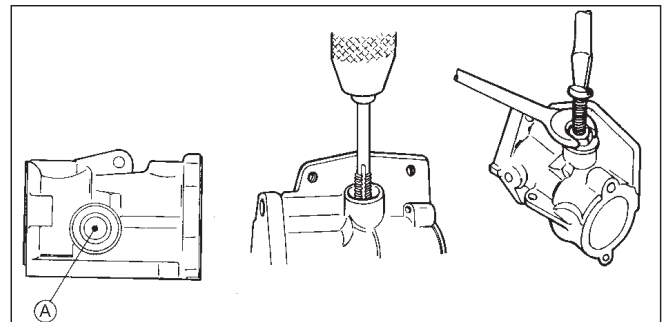

Fig. 10
After removal of the elbow, remove valve for replacement. For this operation proceed as follows: (Fig 10).
- Remove tap and, with a 5/32 screw nut and washer (Fig 10), extract the valve by tightening screw in tapped hole, retain the screw with a screwdriver, turn the nut with a spanner. The valve will then be withdrawn by the screw.